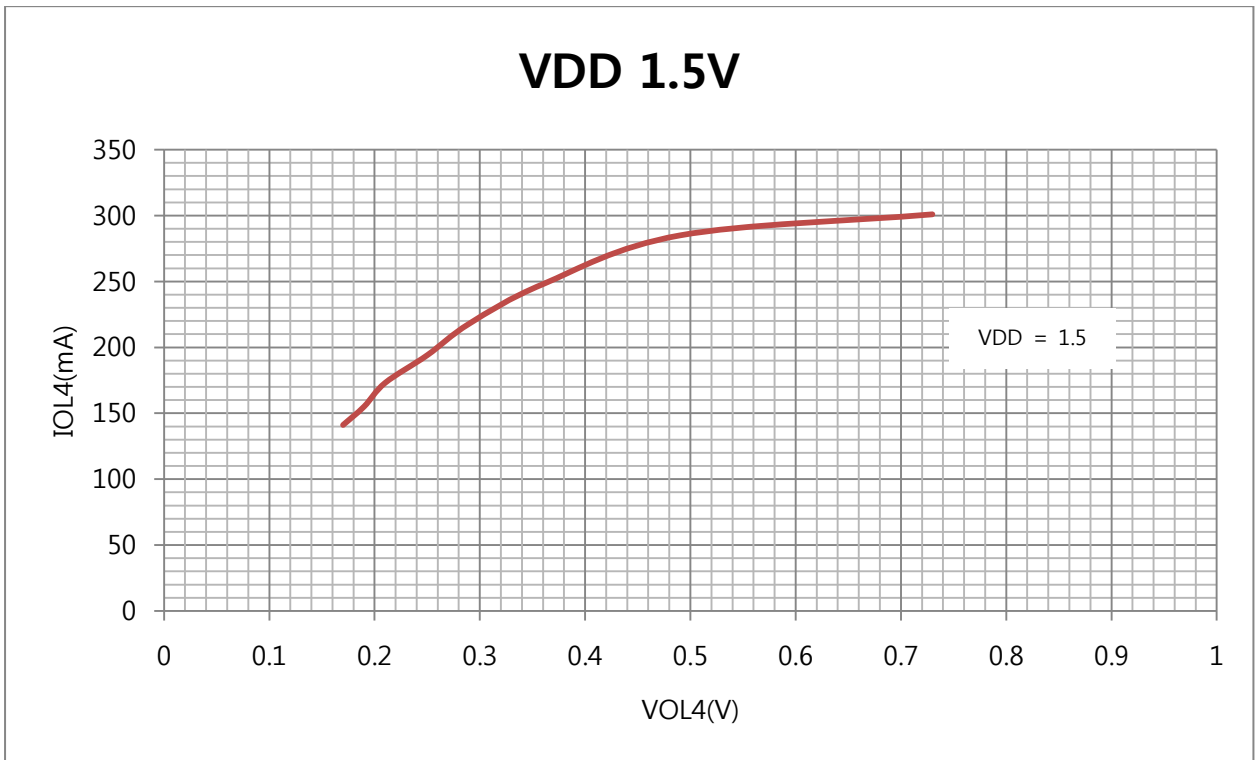

Fig 7-2. I_{OL4} vs. V_{OL4} Graph (REMOUT Port with built-in Transistor)
*2 Refer to Fig.7-2 < I_{OL4} vs. V_{OL4} Graph>